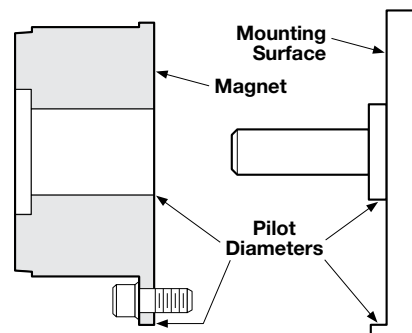

Figure 1
1. A pilot diameter on the mounting surface is essential to hold the magnet within the required tolerances (Figure 1).